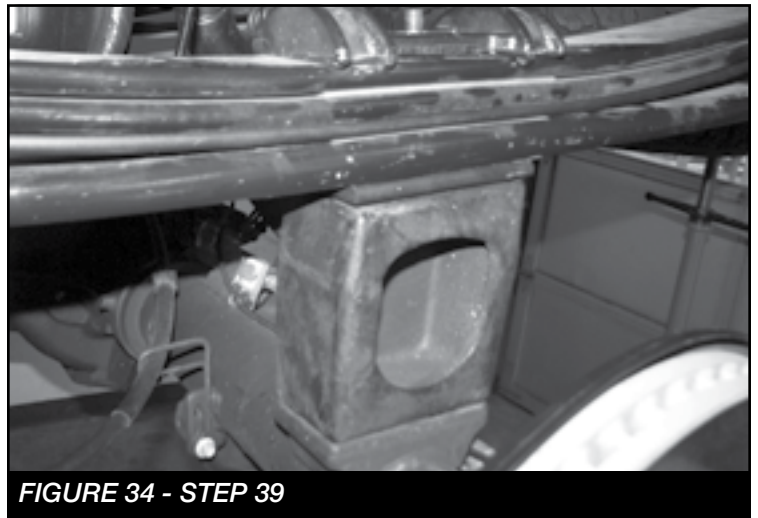

FIGURE 34 - STEP 39
39. Locate and install the rear lift blocks FTBK64D & P. The short end of the blocks should face to the front of the vehicle. Using the supplied u-bolts, nuts and washers align axle, lift blocks and springs and torque to U-Bolts to 120 ft-lbs. **SEE FIGURE 34**